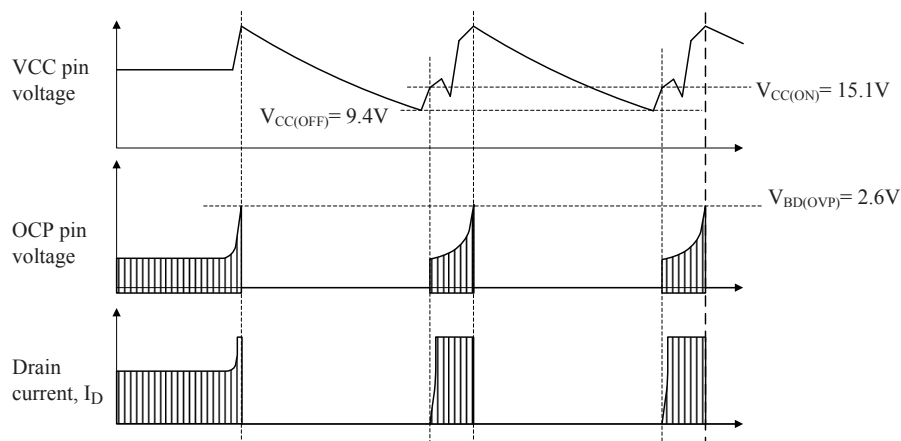

Figure 35. Waveforms when OCP pin OVP is being activated (LC551xD)
- OCP Pin Overvoltage Protection. Figure 35 shows the OCP pin OVP function. When the OCP pin voltage with reference to the S/GND pin reaches $V_{OCP(OVP)} = 2.6\text{ V}$ or more, OVP is activated.